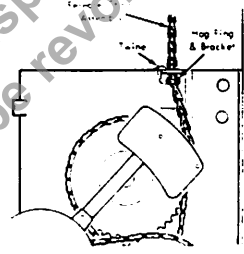

FIGURE 4
2. Temporarily tie Hag Ring to Bracket using twine as shown in Figure 4. Drive Dentil will now engage.